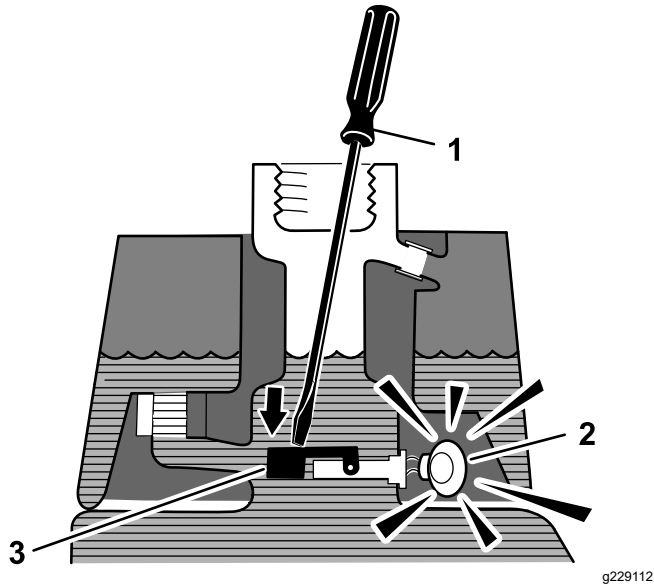

Figure 43
3. Insert a clean rod or screwdriver into the tank neck and gently push down on the float switch (Figure 43); the alarm should sound after the 1-second delay.